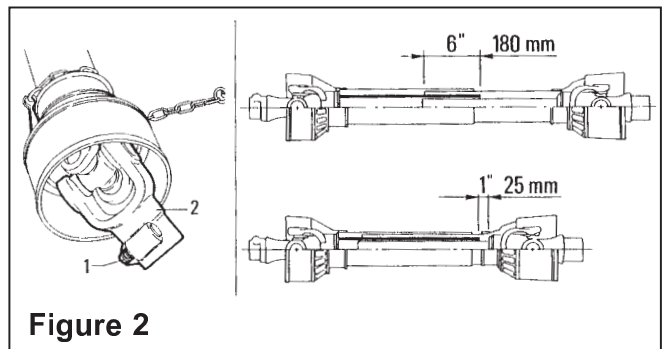

Figure 2
- Check that the driveline is the correct length Figure 2.
Driveline travel must still be about 25 mm (1 inch) in the maximum coupling (overlap) position. See Figure 2.
To achieve this condition, completely insert the latch pin (Ref. #1, Figure 2) into the groove in the PTO shaft on the tractor. Install the bolt through the yoke and input shaft on the mixer.